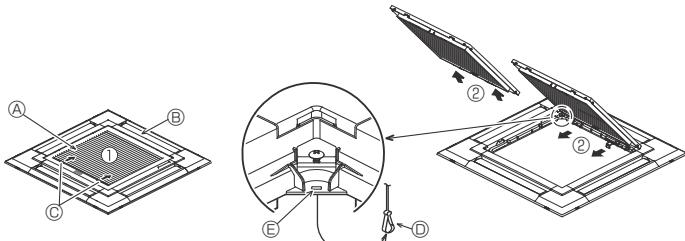
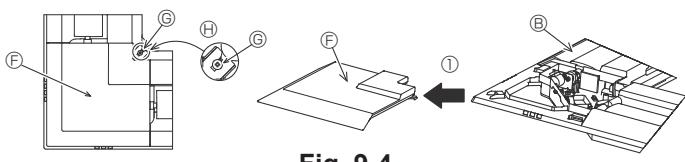

Fig. 9-3
Fig. 9-4
9.2.1. Removing the intake grille (Fig. 9-3)
- Slide the levers in the direction indicated by the arrows ① to open the intake grille.
- With the intake grille in the “open” position, remove the hinge of the intake grille from the grille as indicated by the arrows ②.
9.2.2. Removing the corner panel (Fig. 9-4)
- Loose the 4 screws on the corner. Slide the corner panel in the direction of the arrow ① in the figure and remove the corner panel.
[Fig. 9-3] [Fig. 9-4]